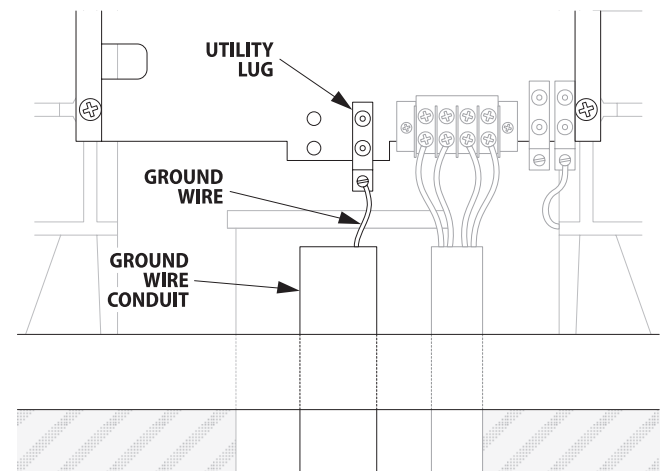

Figure 5
5. Connect the utility ground to the ground lug on the left side of the wiring compartment (see Figure 5).